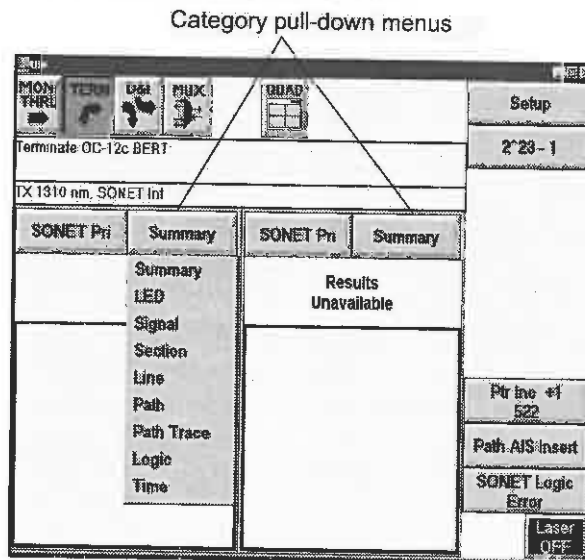

Figure 11 — Pull-down list in Results Category
- 3 **Results Category display** — The second button in this dual-feature display offers a pull-down list allowing you to choose test results in numerous *categories*. Categories change according to the application selected. Figure 11 shows an example of categories listed for SONET applications.